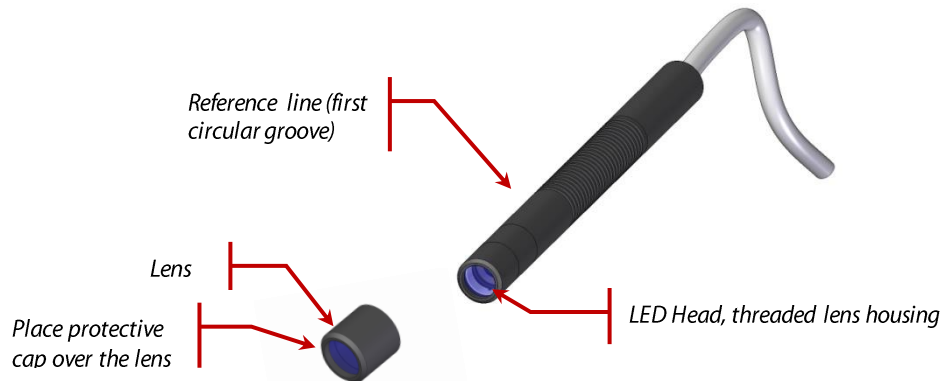
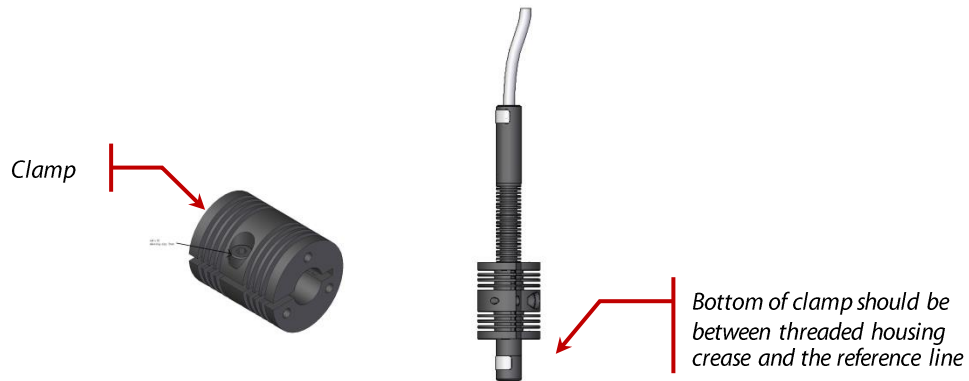

Figure 4 Lens/LED Head Connection
Figure 5 Recommended Clamp Position
6. Install the supplied installation clamp to the existing fixture using either the 3 metric threaded screw holes or the 3 imperial threaded screw holes. The two end faces of the installation bracket are identified for metric and imperial thread sizes. Though the clamp can be located in any position on the head, for optimum heat dissipation resulting in optimum performance it is recommended that the clamp position on the head is as per Figure 5.
8. Attach the appropriate lens and remove the protective cap. To remove the cap, pull the cap-hat — do not rotate the LED head or cap. When not in use, reinstall the cap by holding the cap-hat and pushing it back over the head. This will prevent any contamination to the lens when the head is not used for more than one day. Refer to Figure 4.
2. Slide the clamp over the lens housing and onto the head and tighten the locking screw. For optimal performance and ease of changing lenses, position the clamp so the bottom face is located between the lens housing crease and the reference line (first circular groove) on the head body. Refer to Figure 4 and Figure 5.
Holding the head firmly unscrew the lens housing and replace with desired replacement lens. Refer to Figure 4.